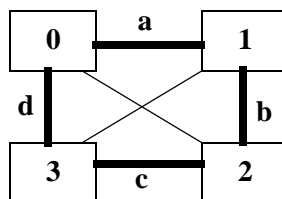

Figure 9: Example 4-Node System in Full Topology
- If there are 2 ganged links where there are 2 ganged link hops to DstNode, then DstLnk must be set such that victim traffic from only 1 node must travel on a link in the same direction. See Figure 9; boxes are nodes; thick is a ganged link; thin is an unganged link. Either of the following schemes are acceptable: